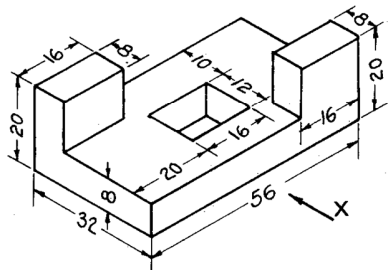

FIG. 18-25
(3) Fig. 18-25: (i) Front view. (ii) Side view. (iii) Top view.